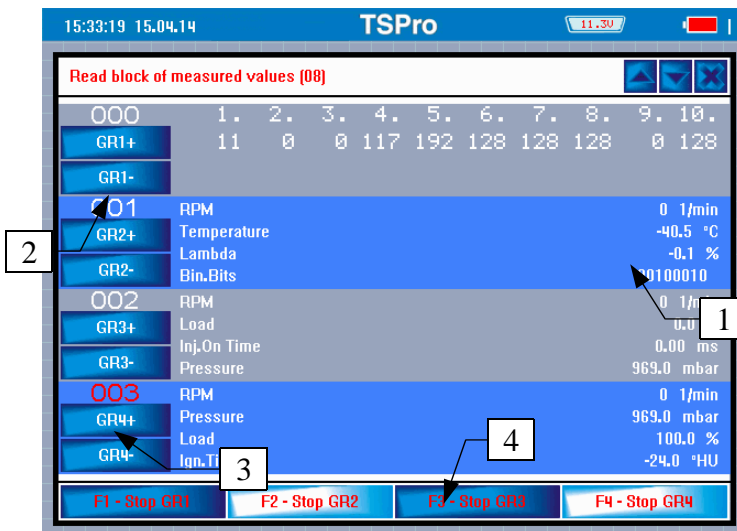

Figure 3.12
In the Read block of measured values menu, the screen is split in four parts (GR1 – GR4), as can be seen in Figure 3.12 – (1). Up to four independent parameter groups can be therefore displayed on the screen simultaneously. By pressing the buttons in the bar at the bottom of the screen (2), display of parameters of a corresponding group (3) in individual blocks is done. Corresponding function keys F1 - F4 can also be used.